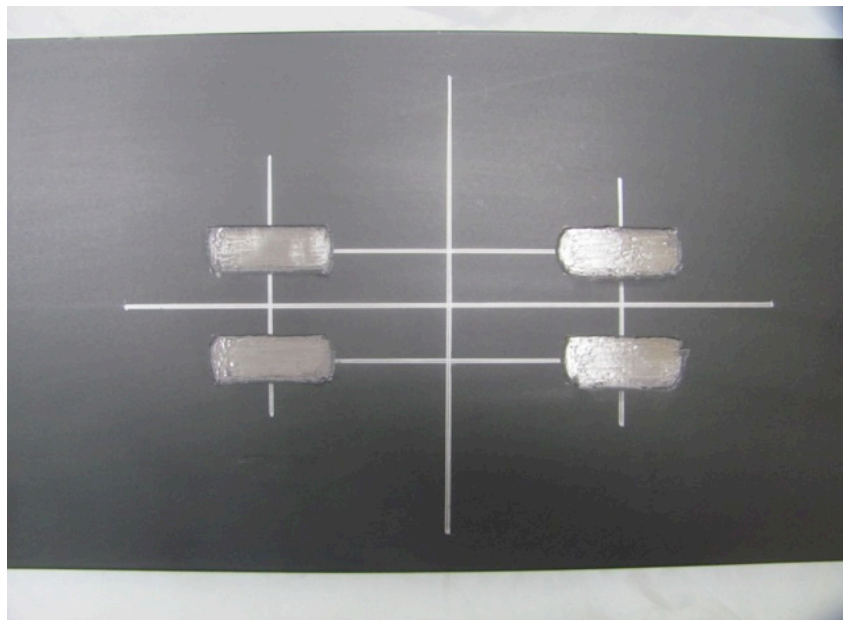

Figure 10: Steel Member Prepared for Adhesive
4. Remove paint or scale from the areas shown in Figure 10 using a power grinder until a clean metal surface is obtained.